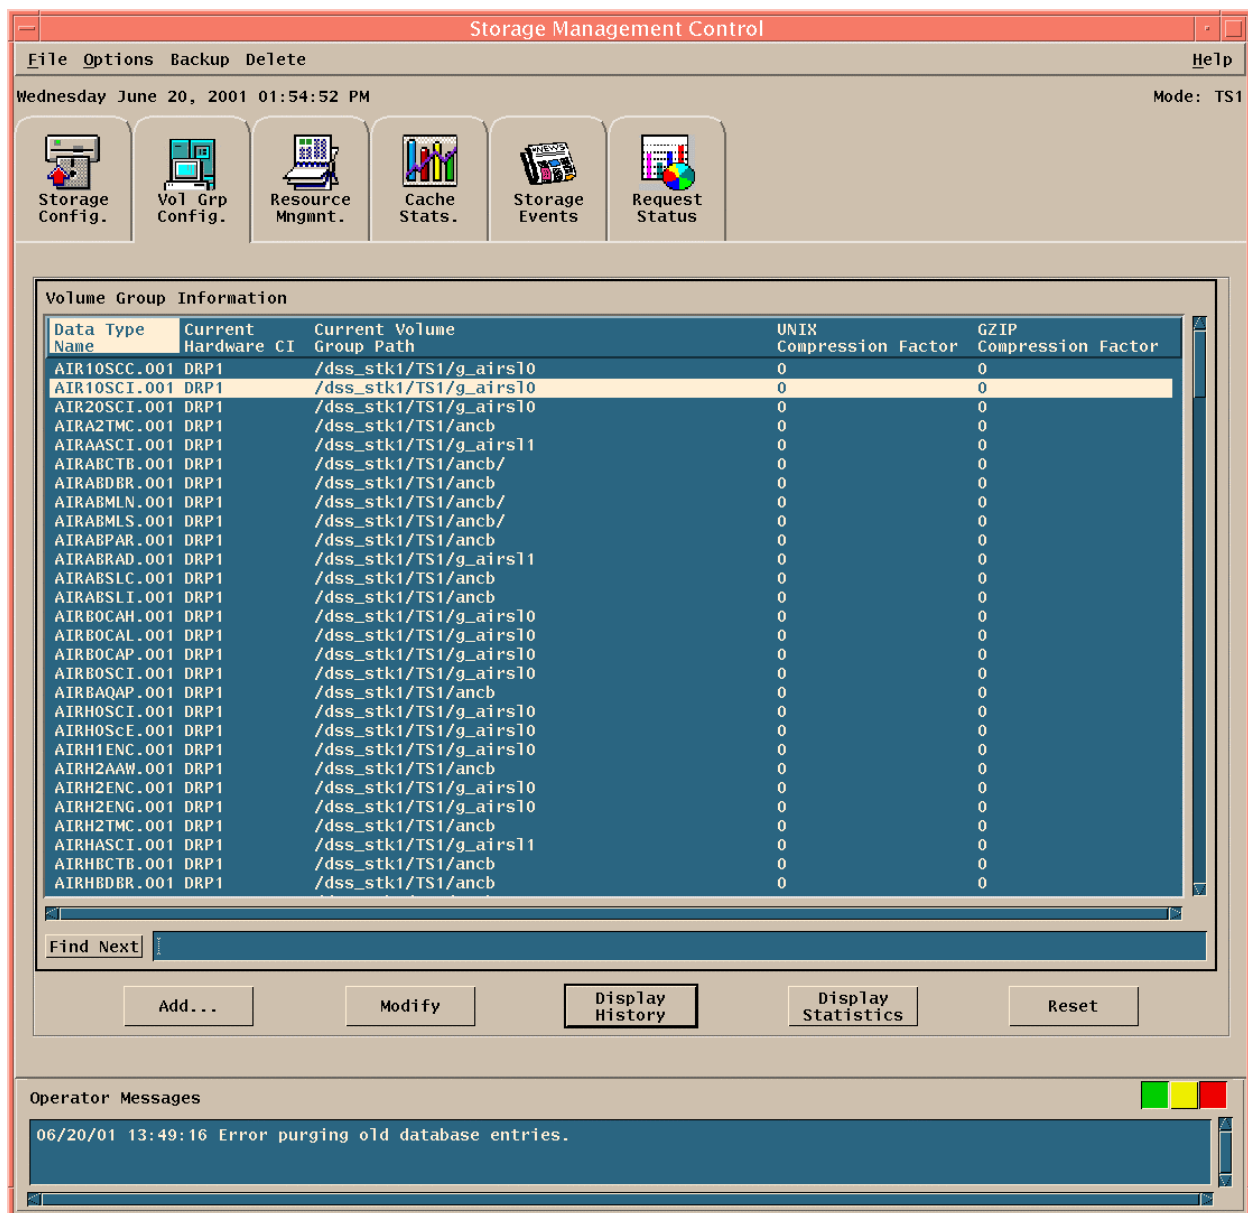

Figure 26.11.4.1-1. Storage Management GUI
- This brings up the Storage Management Control GUI. Refer to Figure 26.11.4.1-1
1. This brings up the "Volume Group Information" pane which is what Figure 26.11.4.1-1 actually illustrates.